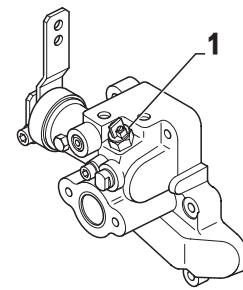

FIG. 5-2
Unscrew neutral safety switch (item 1, Fig. 5-2).